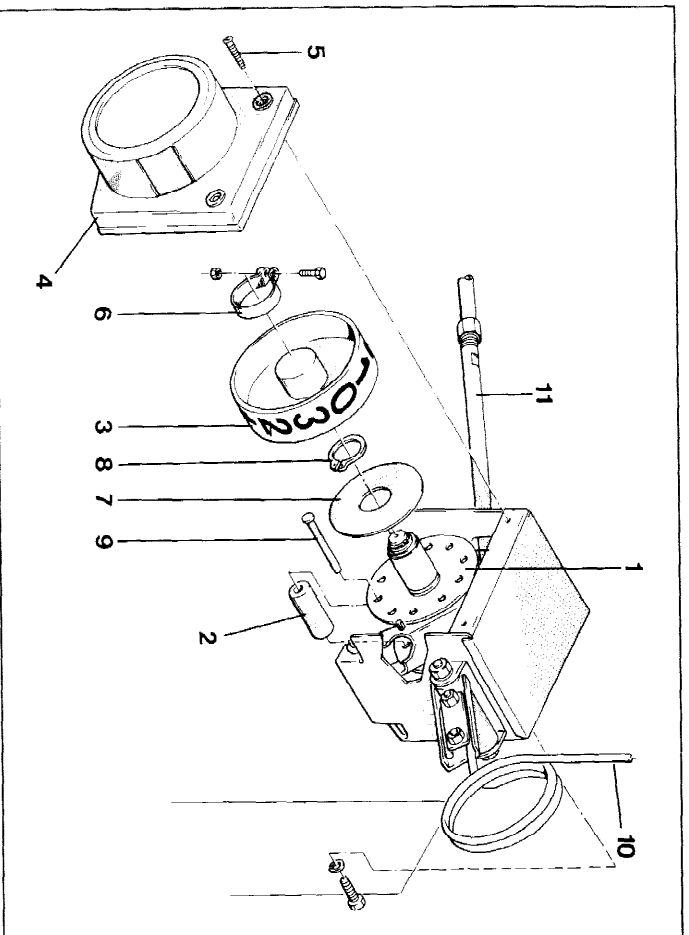
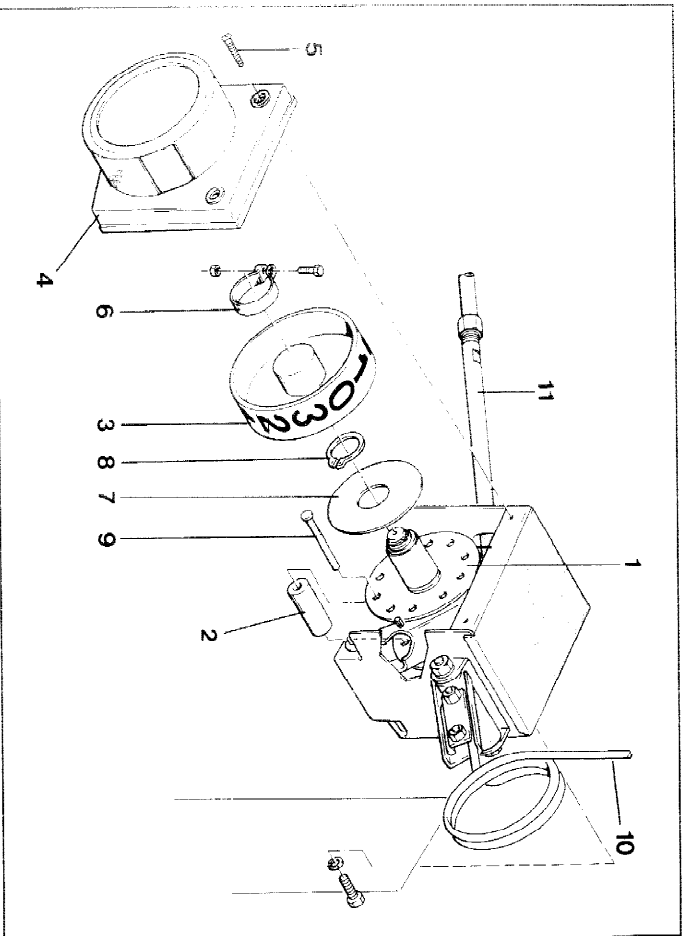

Fig. 92
Fig. 93
A divider wheel (Fig. 92/1) inside the control box controls the seed supply to the rows in which the tramlines shall be created. The following table holds the required divider wheels for the various working widths of the drills and the spacing of the tramlines:
The divider wheel (Fig. 92/1) is the same for the 2-, 3-, 4- and 6-fold sequence. If the order of the sequences should be changed, only the shift rollers (Fig. 92/2) in the divider wheel (Fig. 92/1) need to be repositioned or added.
For the 5-, 7-, 8- and 9-fold sequence it is necessary to exchange the existing divider wheel (Fig. 92/1) for a matching divider wheel.
When changing the control box to another sequence, it is necessary to put on the correct self-adhesive number-strip on the counter wheel (Fig. 92/3).
It is only necessary to change the position of the switch rollers (fig. 93/2) or to add them. This change is also possible if the switch box is still mounted to the seed drill:
- Remove protective cover (Fig. 93/4) after taking off two of the screws (fig. 93/5).
- Remove clamp (Fig. 93/6) and pull off together with the counter wheel.
- Remove the securing disc (Fig. 93/7) after removing the circlip 24 x 1.2 (Fig. 93/8).
- Now the position of the free accessible shifting rollers (Fig. 93/2) may be changed according to Fig. 94 after having pulled out the pins (fig. 93/9).
- Mount securing disc (Fig. 92/7) and circlip (fig. 93/8).
- Apply new number tape (Fig. 94) to the counter wheel (Fig. 93/3) and mount it with the aid of the clamp (Fig. 93/6) onto the divider wheel.
- Now shift the operating lever a few times (Fig. 93/10) switch box until the clamping tube (Fig. 93/11) is pulled by a switch roller (Fig. 93/2) and held in that position. The protective cover (Fig. 93/4) is held to the switch box and the number wheel (Fig. 93/3) is turned until the number "0" shows up in the window of the protective cover.
- Fix the counting wheel (Fig. 93/3) by the clamp (Fig. 93/6) and mount the protective cover (Fig. 93/4).
- Switch divider wheel by pulling the operating spring lever (Fig. 93/10) a few times until the counting wheel (Fig. 93/3) has made at least three complete turns and check whether the switch box operates properly, i. e. whether in every "0"-position the clamping tube (Fig. 93/11) is being pulled properly.